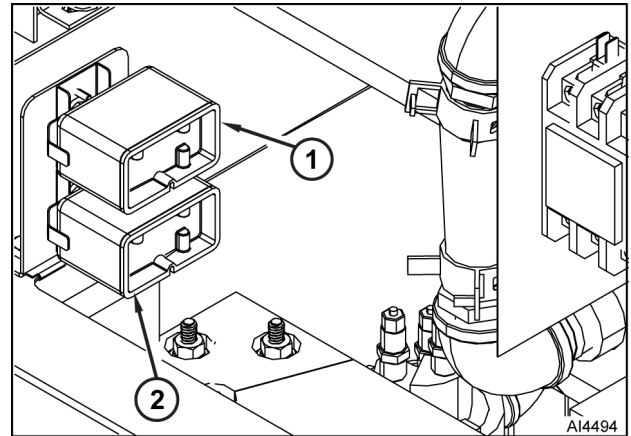

Fig. 41
4. Disconnect electrical wiring from high-limit thermostat (1 or 2, Fig. 41).